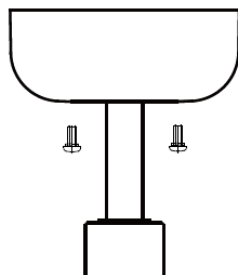

Fig. 9
- Cover the mounting bracket with the canopy. Ensure all electrical wiring is tucked inside the canopy and that the wires are not damaged during this step. Secure the canopy to the hanger bracket using the screws provided. Fig. 9